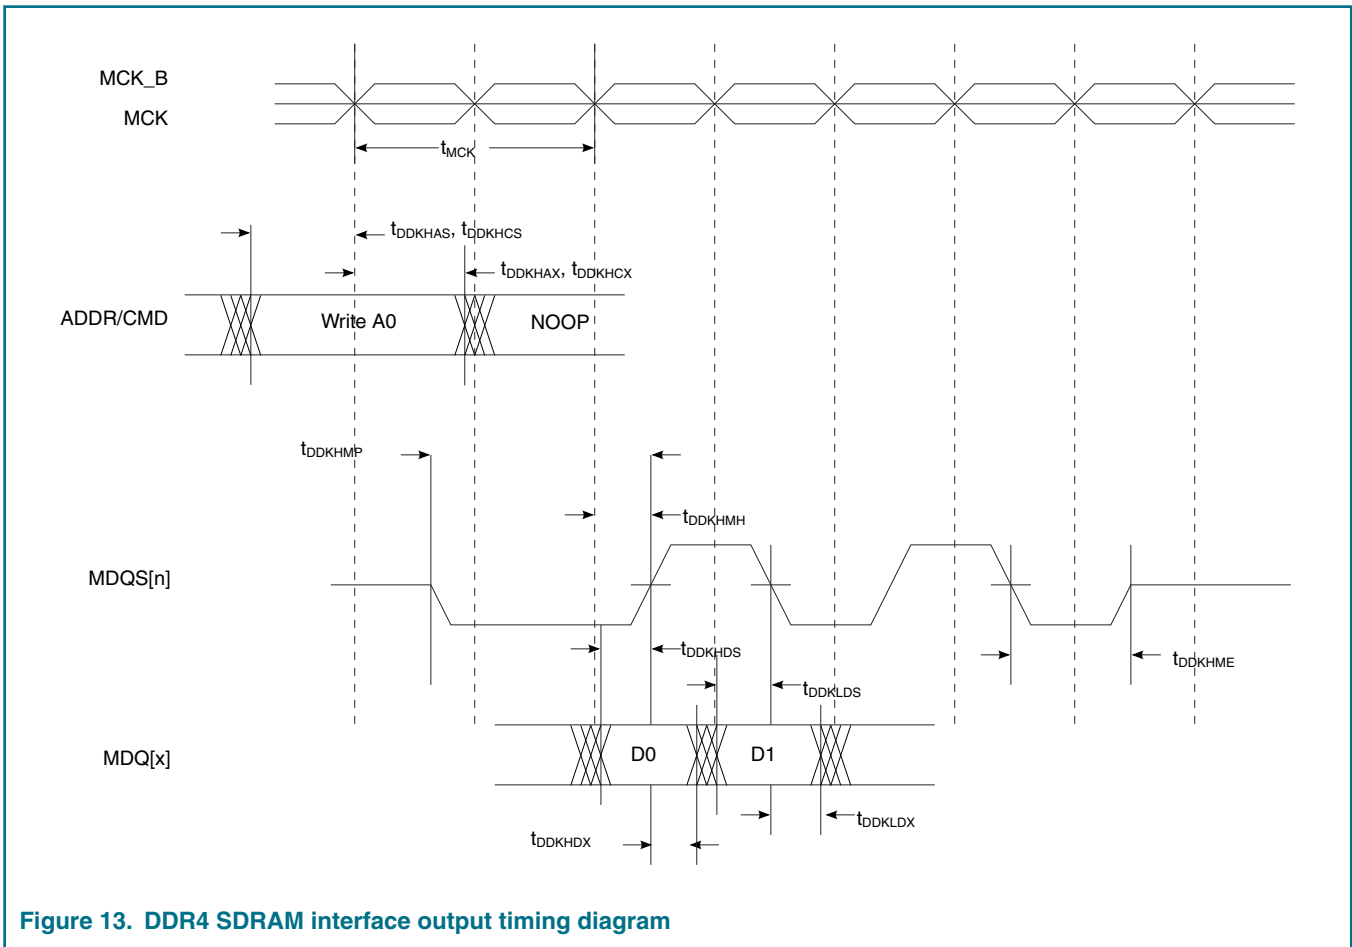

Figure 13. DDR4 SDRAM interface output timing diagram
1. All MCK/MCK_B and MDQS/MDQS_B referenced measurements are made from the crossing of the two signals. 2. ADDR/CMD/CNTL includes all DDR SDRAM output signals except MCK/MCK_B, and MDQ/MECC/MDM/MDQS/MDQS_B. 3. Note that tDDKMHM follows the symbol conventions described above. For example, tDDKMHM describes the DDR timing (DD) from the rising edge of the MCK[n] clock (KH) until the MDQS signal is valid (MH). The timing parameters listed in this table assume that the MCK and MDQS signals are programmed to launch from the controller using the same adjustment value. 4. Note that it is required to program the start value of the DQS adjust for write leveling. 5. Available eye for data (MDQ), ECC (MECC), and data mask (MDM) outputs at the pin of the processor. Memory controller will center the strobe (MDQS) in the available data eye at the DRAM (end point) during the initialization. 6. See Figure 13 . on page 82.
3. Note that t_{DDKMHM} follows the symbol conventions described above. For example, t_{DDKMHM} describes the DDR timing (DD) from the rising edge of the MCK[n] clock (KH) until the MDQS signal is valid (MH). The timing parameters listed in this table assume that the MCK and MDQS signals are programmed to launch from the controller using the same adjustment value.
6. See Figure 13. on page 82.